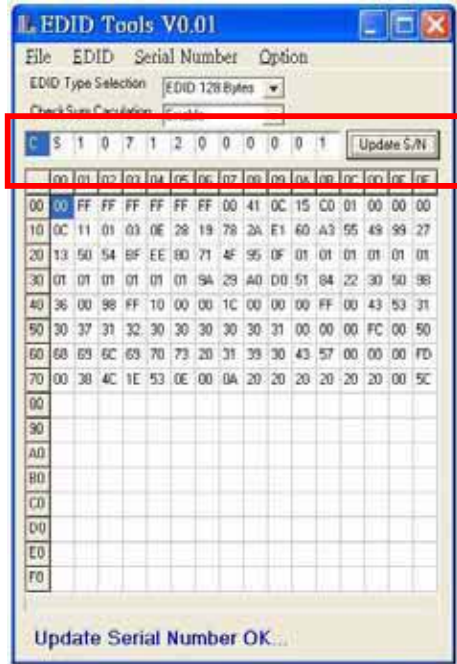

Fig.8
4. Modify Serial Number then Press •Update S/N button as shown in Fig.8.